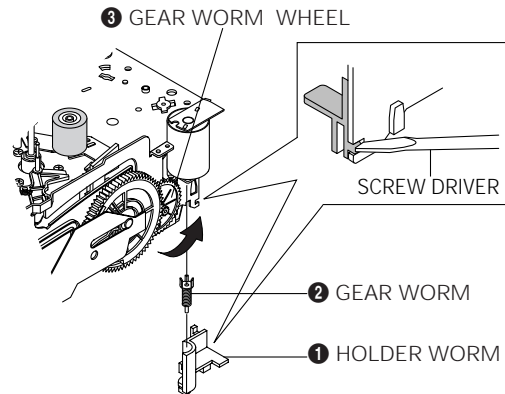

Fig. 4-32
4. Rotate Gear Worm Wheel **3** counterclockwise using screw driver, up to the state of eject mode, and then pick out the tape. (Refer to Fig. 4-32)